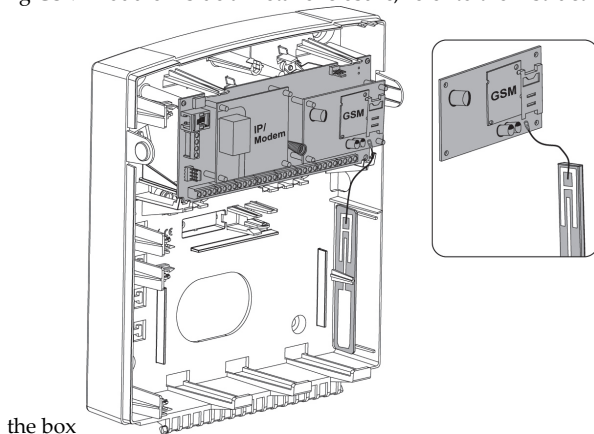

Figure 2-10 Placing the GSM module and antenna
2. Mount the GSM module by placing its plastic standoffs onto the corresponding holes on the PCB. See the example below in Figure 2-10.
4. Ensure the antenna is attached onto its connector on the GSM module, and then slide the antenna into place on the box / enclosure housing according to the instructions packaged with the specific box / enclosure being used (one example is illustrated below in Figure 2-10):